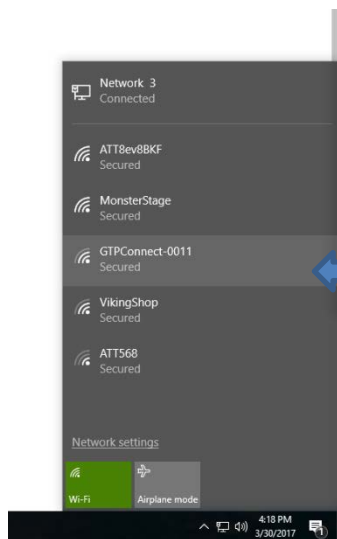

Figure 3
- 2) Open Wi-Fi manager and connect to the GTPConnect-____ signal broadcasting in range (Figure 3)